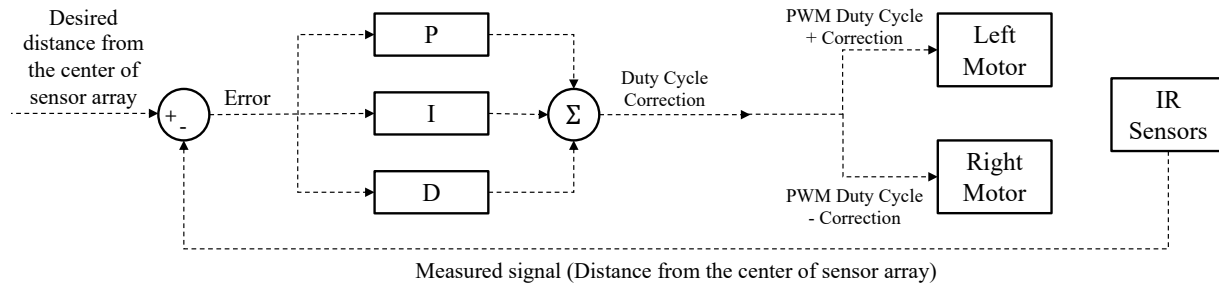

Figure 1: The system block diagram using a PID controller to track the line with the IR sensors.
- Using the line tracking error from the IR sensor array, design a PID controller that modifies the applied PWM signal to each individual motor and reduces the tracking error. A block diagram for such system is shown in Figure 1.